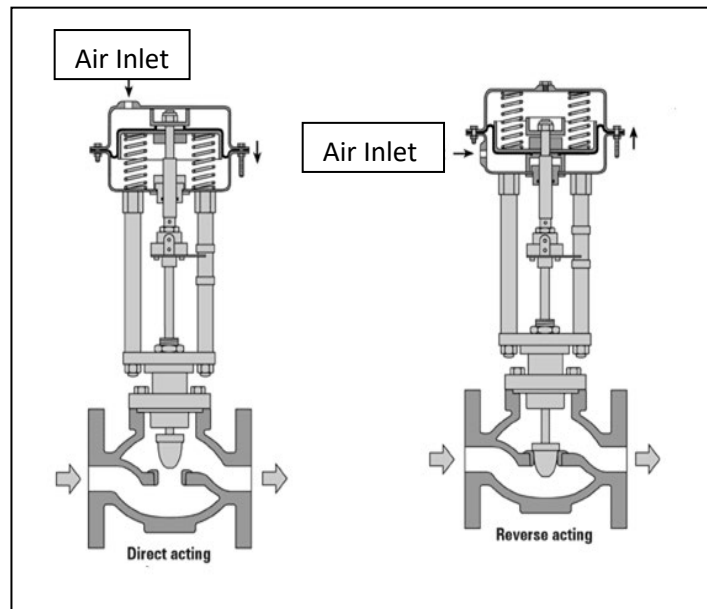

Figure A3b / Rajah A3b
- (b) Elaborate the operations of direct acting and reverse acting for Diaphragm Actuator in figure A3b.